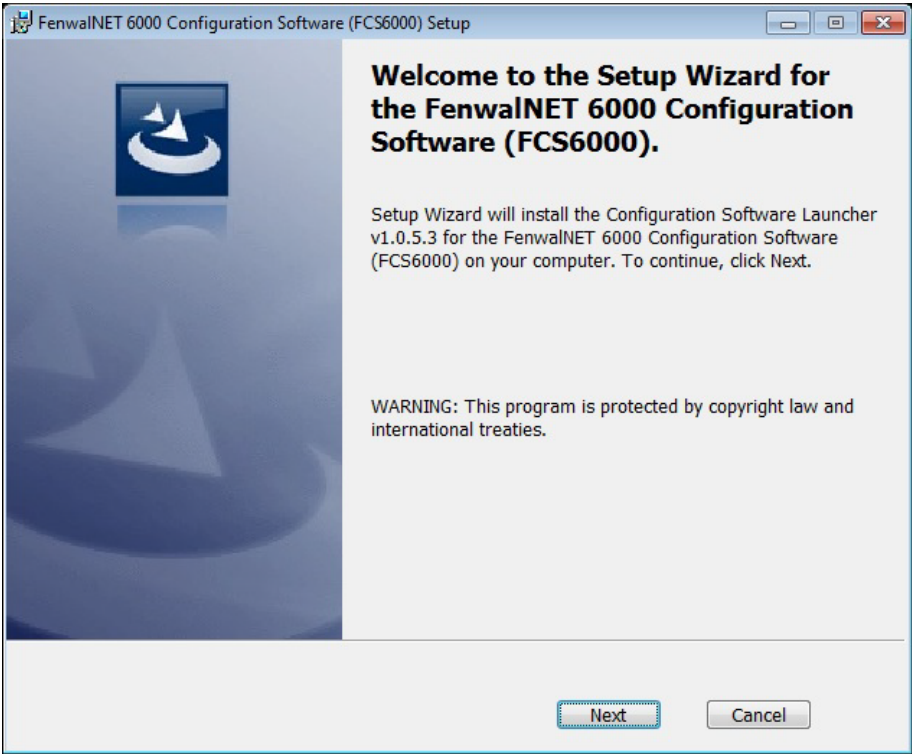

Figure 1-1. Setup Wizard Welcome Screen
**Note:** The version that is shown in Figure 1-1 (v1.0.5.3) is the version of Launcher, not the version of the FCS 6000 software.